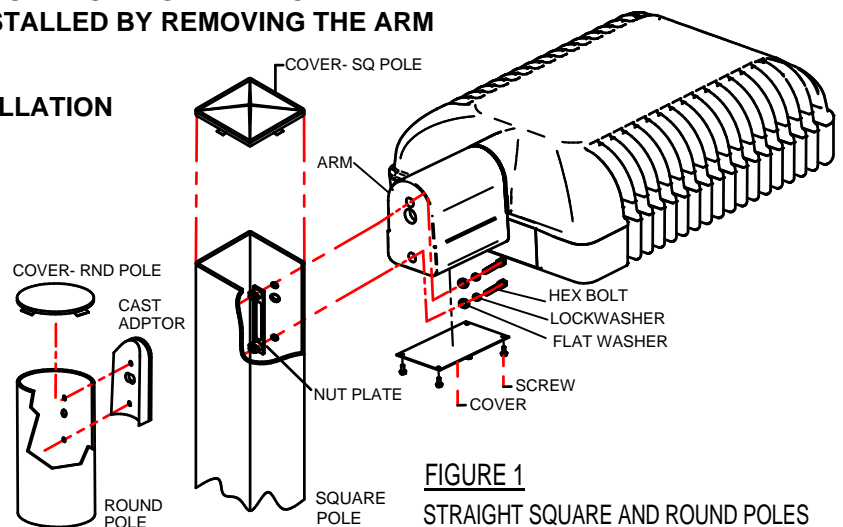
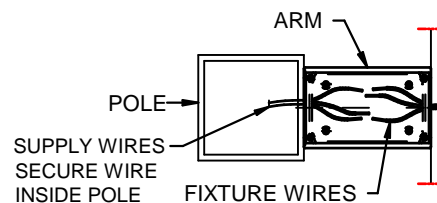

FIGURE 1
FIGURE 2
1. MOUNTING PREPARATION (See Fig. 1)
- Remove Arm Cover by removing the (4) Screws.
- Attach Fixture to Pole with (2) ½" Hex Bolts, Lockwashers and Flatwashers into Nut Plate inside pole.
3. WIRING (See Fig. 2)